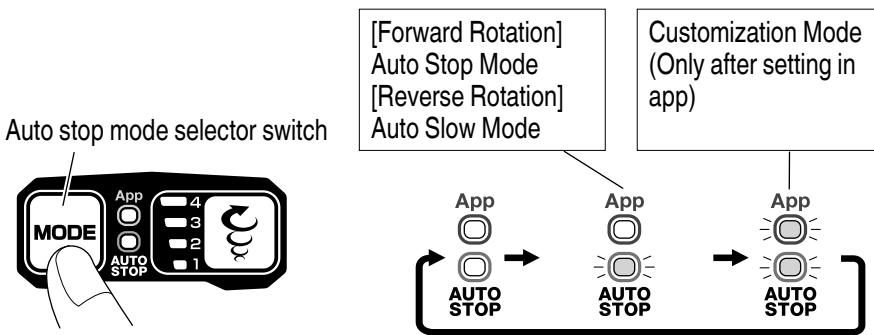

Fig. 21
(2) Auto stop mode selector switch (Fig. 21)